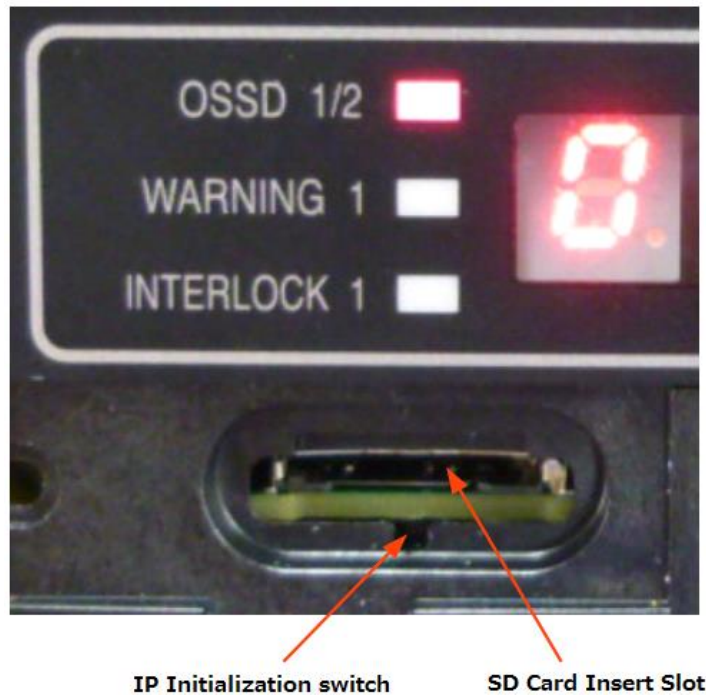

Figure 3-27 IP initialization switch
- a) Prepare a thin strong pin for IP initialization process. IP initialization switch is located exactly below the SD card Slot (Refer to figure 3-27)